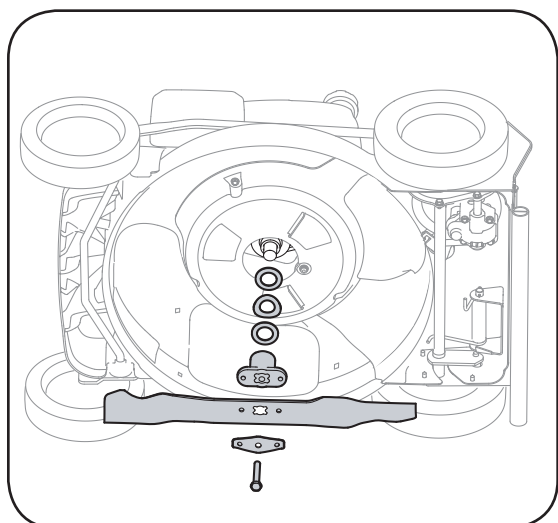

Figure 5-12: Reinstall the remaining hardware.
21. Lightly lubricate the inside of the blade adapter and reinstall the washers, blade adapter, blade, and blade bell support in the correct order, Figure 5-12 (Refer to Blade Care section). Tighten the hex bolt to 450-600 in. lbs. torque.